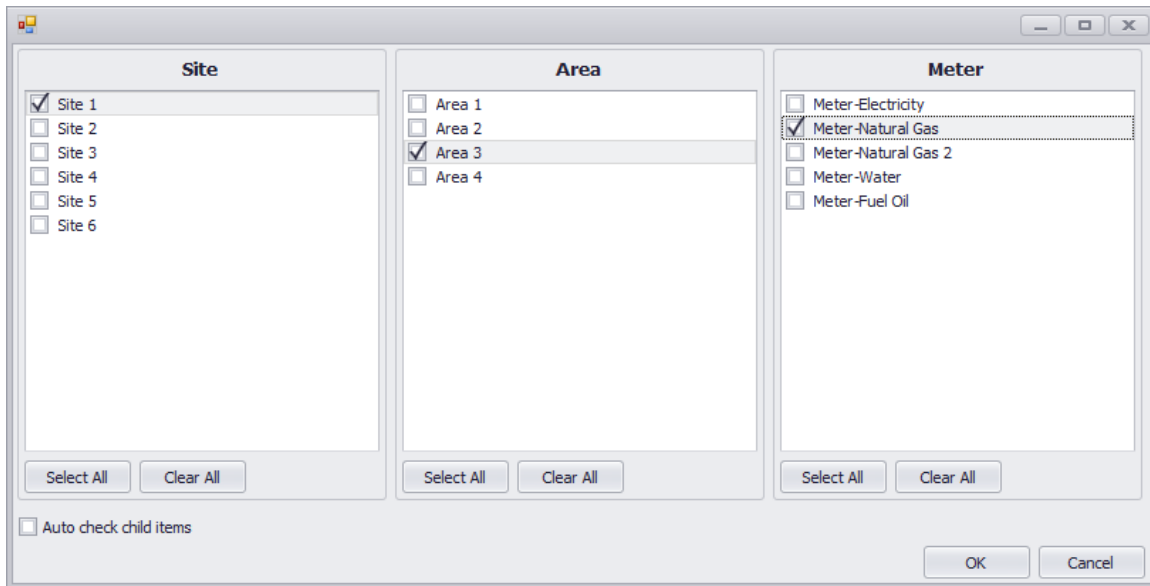

Figure 4.4: "Select" pop-up window for the Report Options.
- **Select item(s):** reports can be created for the whole project or for a specific Site, Area or Meter by selecting the appropriate option from this drop-down menu. If you select Site, Area, or Meter, the option box below will be activated and you will be able to select if you want to include in the report all the items in the selected category or to include only a partial selection. To make a selection of items, click on the “Selected” check box and a “Select” button will be activated. Click on the “Select” button and a check-box window with available items will pop up. You can select as many items as you want to be included in the report. Figure 4.4 shows this “Select” check-box window to generate a report at the Meter level of a natural gas meter located in Area 3 of Site 1.